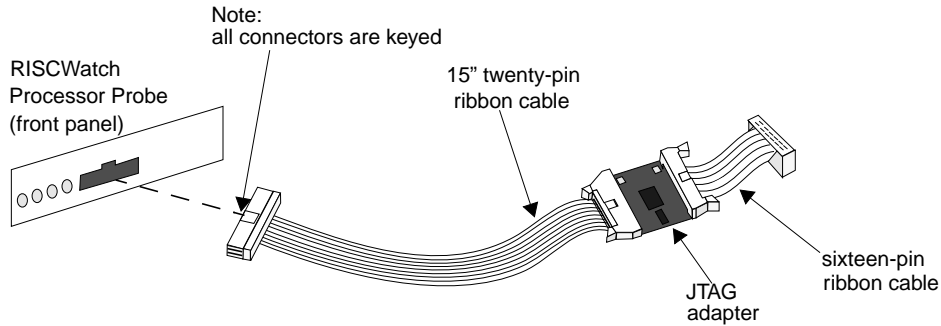

Figure 5-1. Typical JTAG Adapter Assembly
4. If your JTAG adapter assembly looks like the one shown in Figure 5-1, you have what we refer to as a “typical JTAG adapter assembly”. To assemble the adapter and cables, perform the following steps: